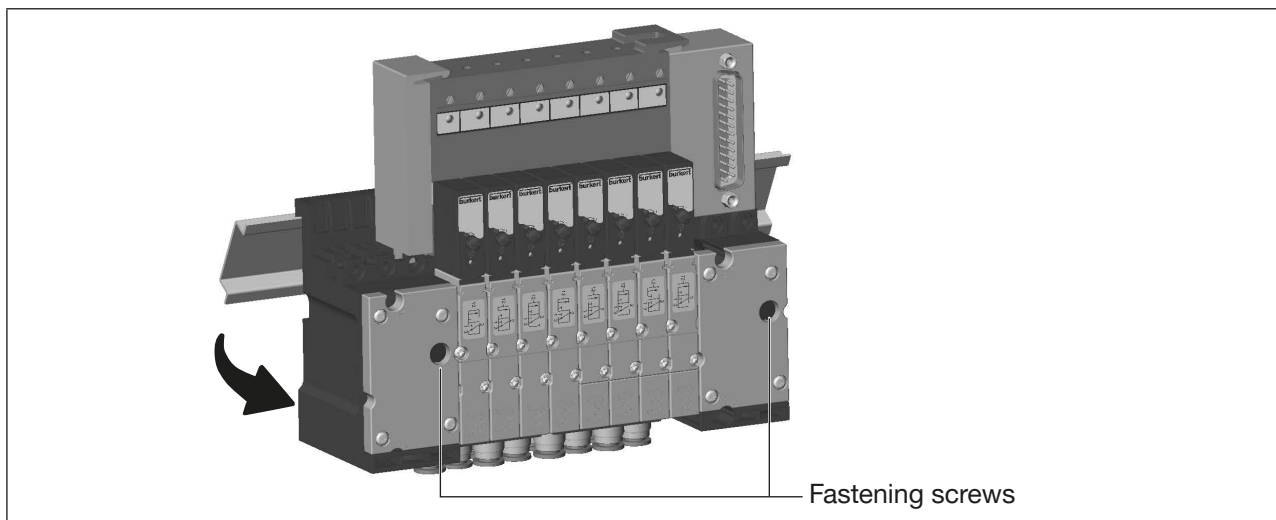

Fig. 82: Removing the valve block from the standard rail
- Check whether all fastening screws of the valve block (see "Fig. 82") are at the stop when turning anticlockwise.